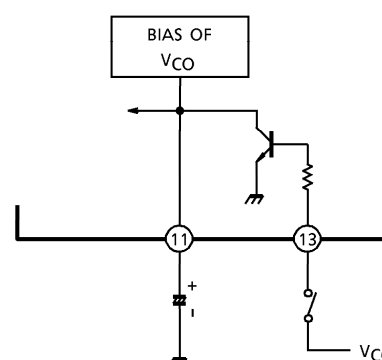

Fig.4
(4) Compulsive monaural function
In case that the terminal pin⑬ is connected to V_{CC} as Fig.4, this item becomes compulsive monaural mode. That causes the VCO stopping.